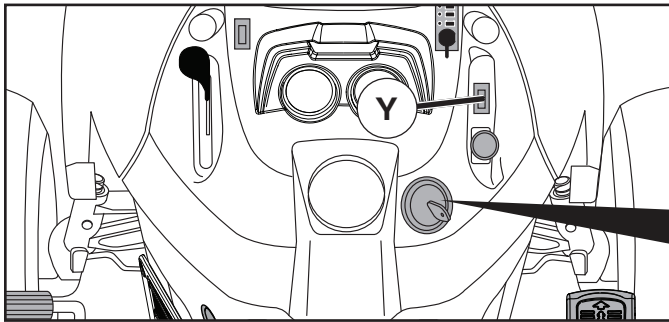

Fig. 26
TO USE DIFFERENTIAL LOCK CONTROL (Y) (See Fig. 26)